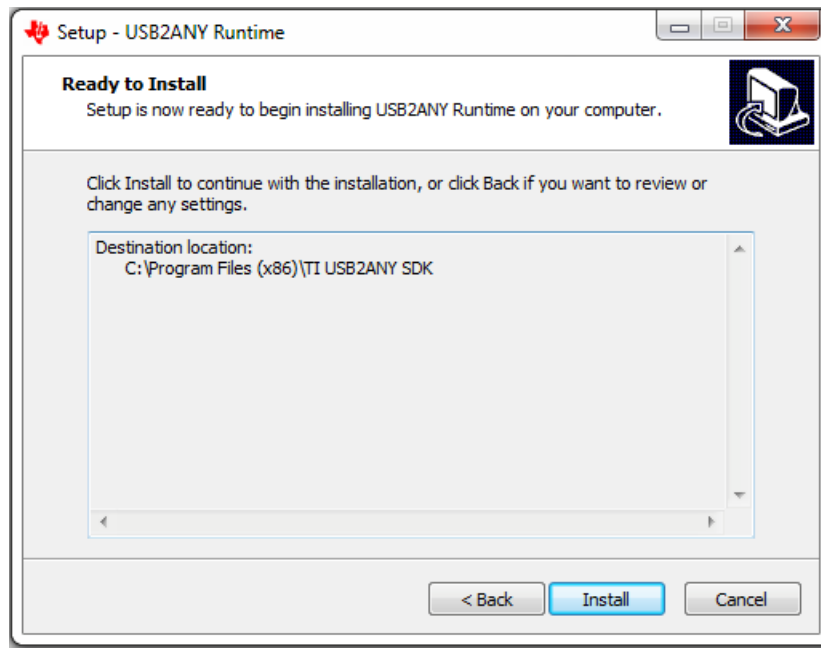

Figure 21. USB2ANY Start Installation
- The screen shown in Figure 21 appears. Click the *Install* button to begin the USB2ANY installation.